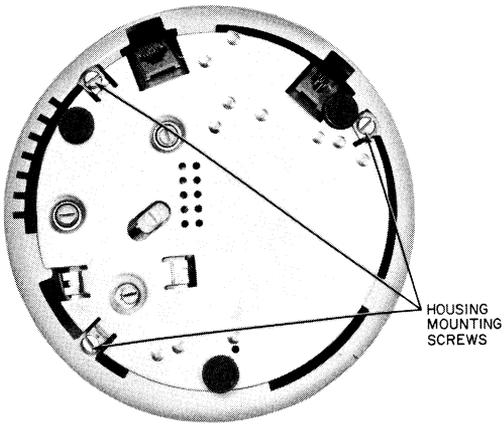

Fig. 5—940A or 940B Telephone Set, Bottom View
- (1) Remove handset cord from handset and telephone set base.
- (2) Remove mounting cord from telephone set base and wall jack or adapter.
- (3) Remove three housing mounting screws located on bottom outer edge of the baseplate (Fig. 5 or 6).
- (4) Remove upper and lower housing by lifting them off.
(5) After removing telephone company-owned components reassemble upper and lower housings using the three housing mounting screws (Fig. 5 or 6).